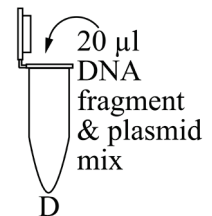

Fig. 5
4. Using the P200 micropipette and a sterile tip, add 20 μ l DNA fragment and plasmid mixture to tube “D” (Fig. 5).